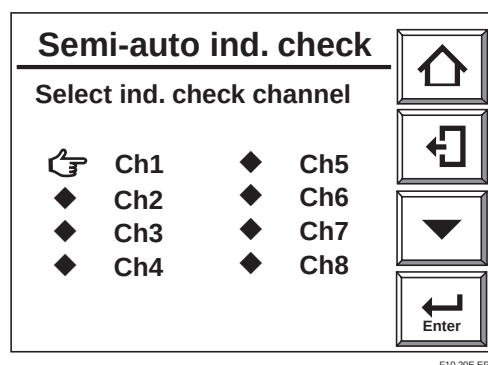

Fig. 10.20 Channel Select Display
- 2) Select [Semi-auto ind. check]. The channel select display of Fig. 10.20 is displayed.